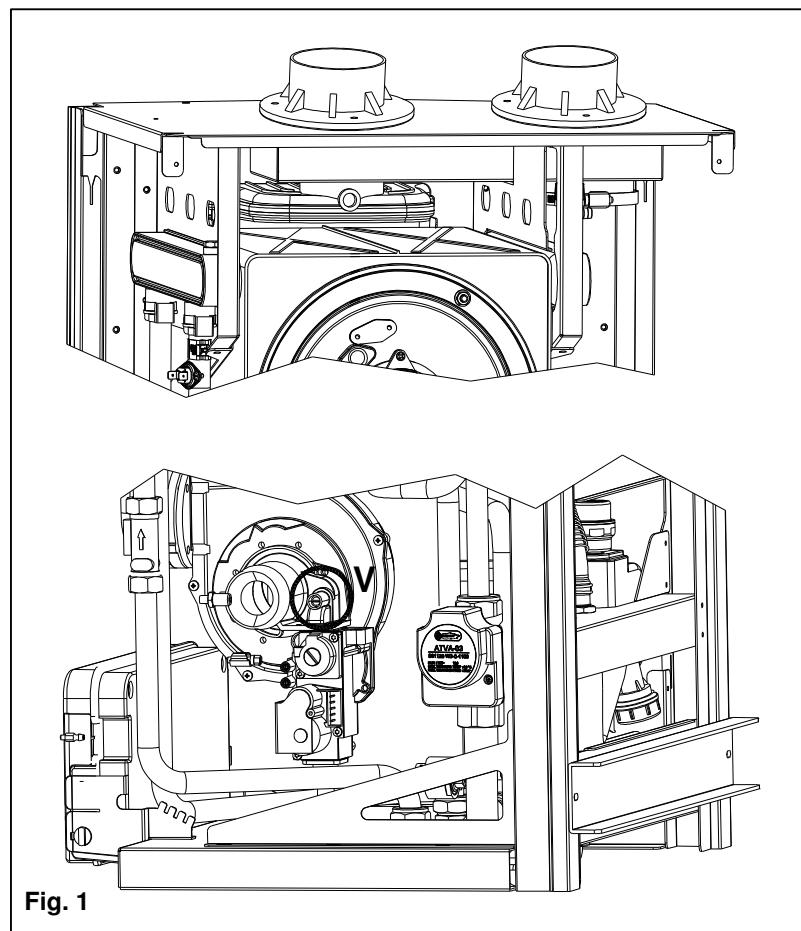

Fig. 1
- Check that the plug of the air vent valve has been slackened slightly to allow air to escape from the system (fig.1);
The filling operation is carried out as follows (see fig. 1):
- If the CO2 value does not correspond to the specified value, adjust screw V (see fig. 1) on the venturi clockwise to reduce the CO2 value or anticlockwise to increase it;